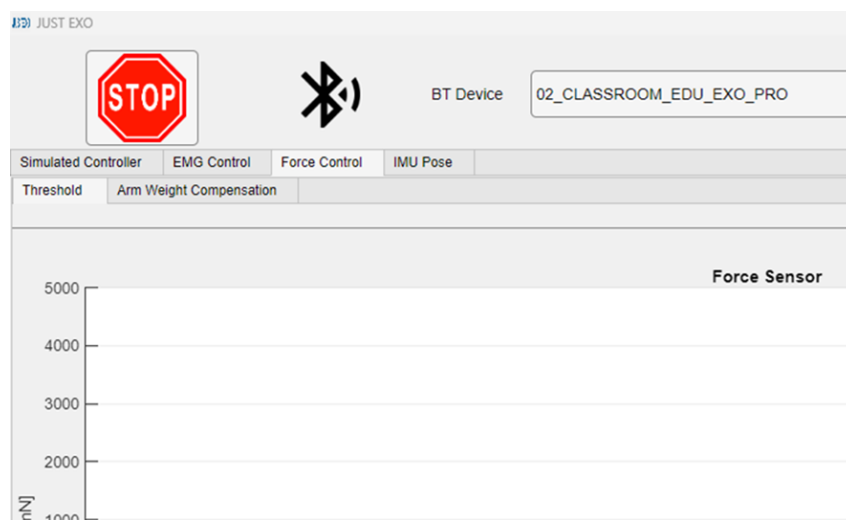

Figure 10: *Choosing the force control tab (red) and the threshold tab (blue).*
1. Choose the “Force control” tab, and then the “Threshold” tab, which can be seen in Figure 10.